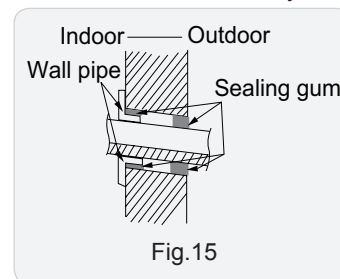

Fig.15
- (1) Put the bound pipes in the wall pipe and then make them pass through the wall hole.
- (2) Stuff the gap between pipes and wall hole with sealing gum. (As show in Fig.15)
- (3) Fix the wall pipe.
- (4) Check if the indoor unit is installed firmly.